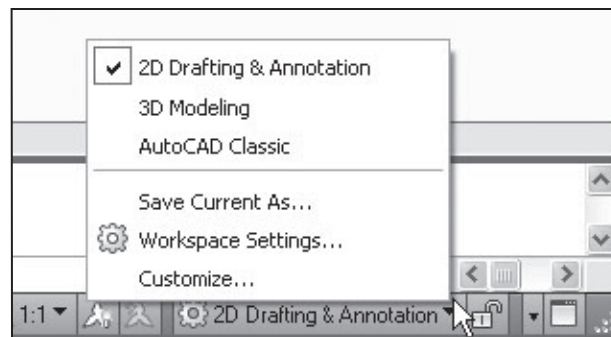

Fig. 3-1
3. Click on the **Workspace Switching** button on the right side of the status bar, as shown in Fig. 3-1.